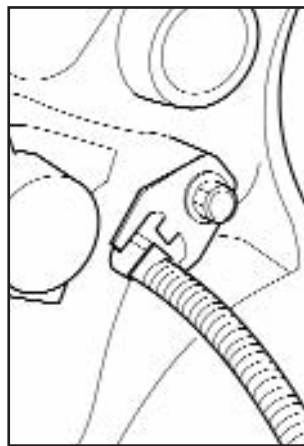
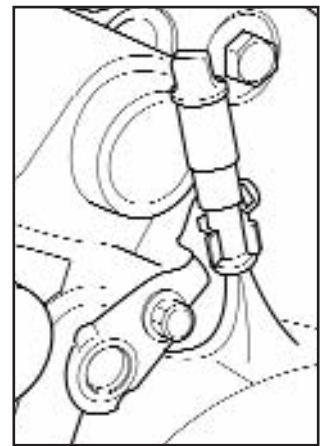

Fig 2.15a
Fig 2.15b
- An electronic CWS - continuous wear sensor (Fig 2.15a) or switch (Fig 2.15b) within the brake.